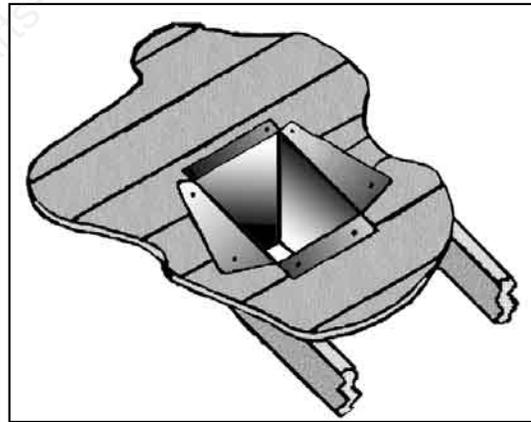

Figure 17: Cathedral Ceiling Support Box Installation.
STEP 5. Using tin snips, cut the "Support Box" from the top corners down to the roofline, and fold the resulting flaps over the roof sheathing (Figure 17). Before nailing it in to the roof, run a bead of non-hardening mastic around the top edges of the "Support Box", to make a seal between the box and the roof. Clean out any combustible material from the inside of the "Support Box".